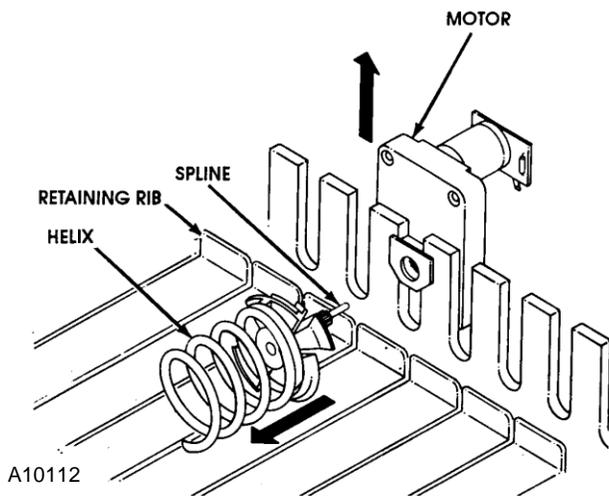

FIGURE 17. Helix Coupling
4. Lift the helix and motor slightly (approximately $\frac{3}{4}$ -in to disengage the helix hub from its retaining rib in the bottom of the tray. See Figure 17.
5. Separate the helix and hub from the motor slightly (approximately 1-in) by pulling forward on the helix hub to disengage its spline from the motor's internal gear. See Figure 17.
7. Push down on the motor and helix hub to re-seat the helix hub onto its retaining rib in the bottom of the tray. See Figure 17.